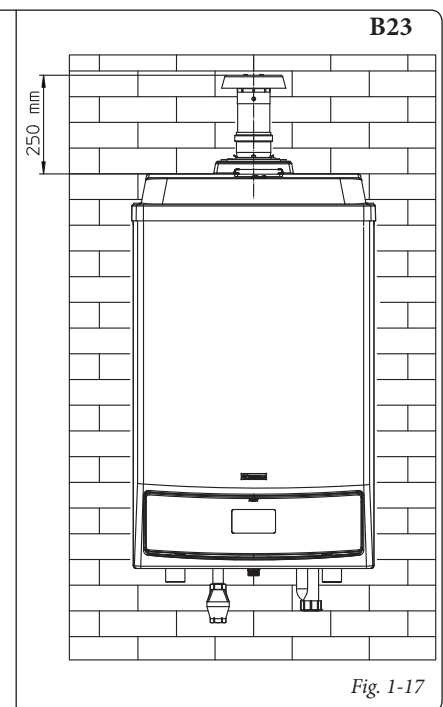

Fig. 1-17
Using the Ø 80 vertical terminal for direct discharge of the combustion products, the terminal must be shortened (see quotas fig. 1-17). The wall sealing plate (1) must also be inserted in this case going up to stop on the boiler cover.